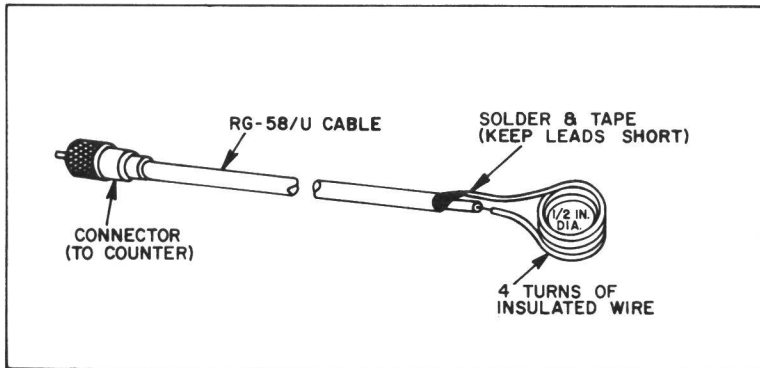

Figure 5 - Coaxial Cable and Test Loop
- Coaxial cable with test loop as described in Figure 5.
- Connect the frequency counter to L5 (on the 1st Osc/Mult) using the 4-turn test loop and cable shown in Figure 5.